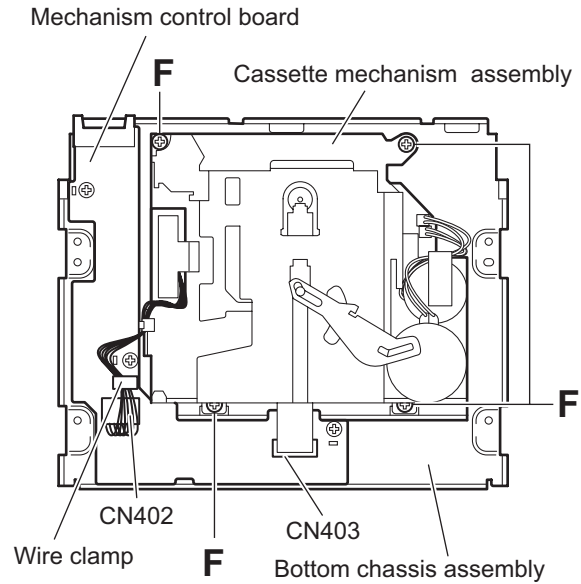

Fig.7
3.1.6 Removing the cassette mechanism assembly (See Fig.7)